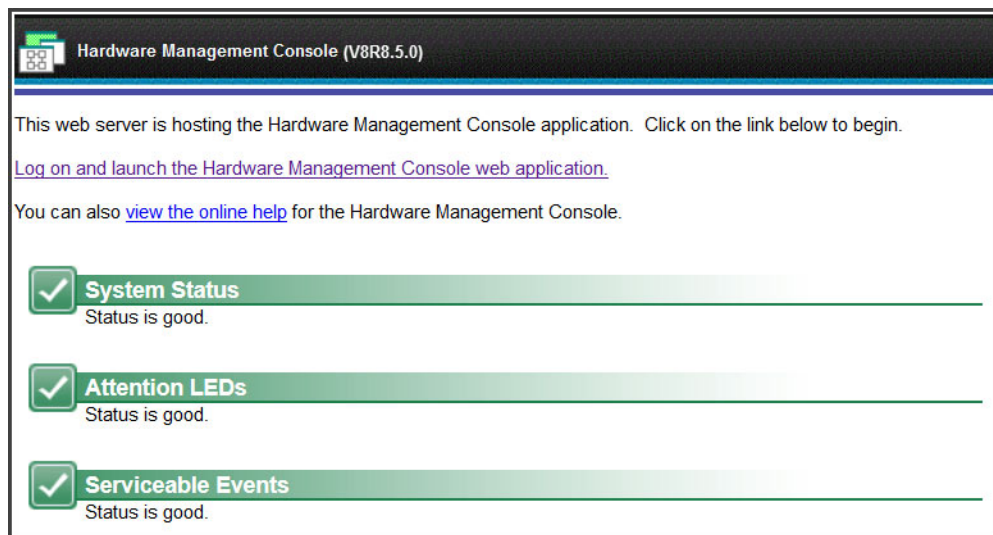

Figure 8-7 Service Management Console application
2. Click **Log on and launch the Hardware Management Console web application** to open the login window, as shown in Figure 8-7 and log in. The default user ID is customer and the default password is cust0mer.